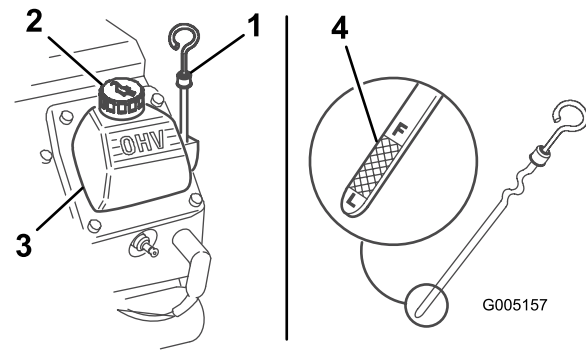

Figure 8
3. Clean around the oil dipstick (Figure 8).
4. Pull out the dipstick and wipe the metal end clean (Figure 8).
5. Slide the dipstick fully into the dipstick tube (Figure 8).
7. If the oil level is low, clean around the oil filler cap and remove the cap (Figure 8).